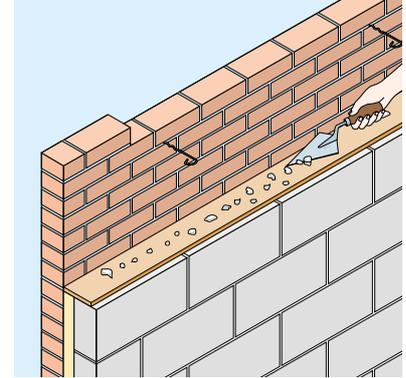

Figure 6
- 4 Before installation of each course of batts, excess mortar must be removed from the inside face of the leading leaf and mortar droppings cleaned from the exposed edges of the batts. This is made easier by the use of a cavity board (Figure 6). This sequence should be maintained progressively up to wallplate (or cavity tray) level. It is important that the insulation is carried to the highest level possible in either case (Figure 9).